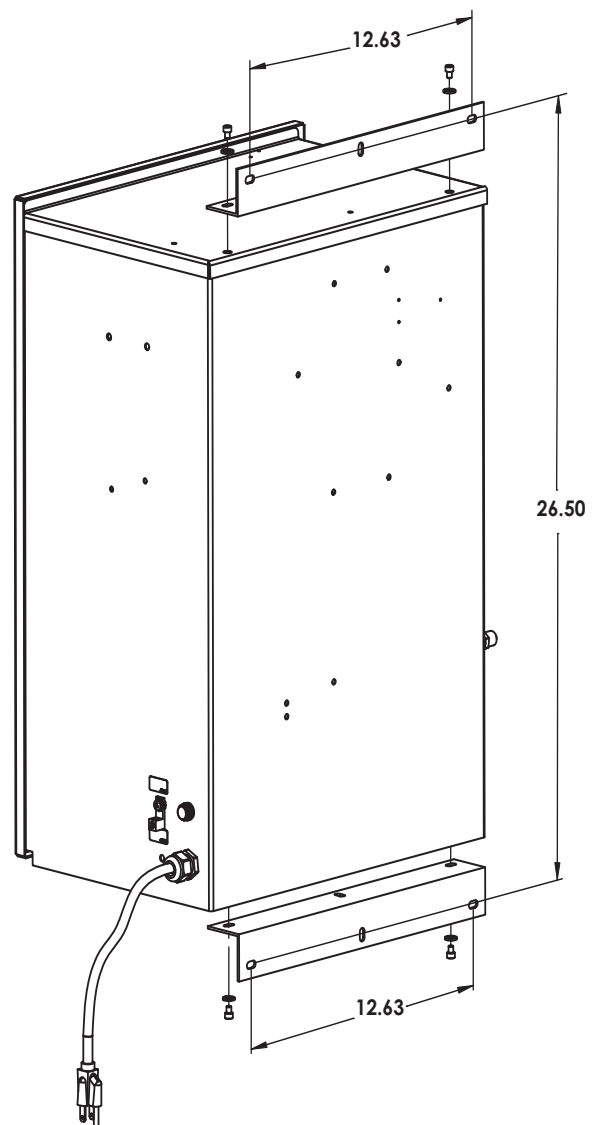

Figure 1: Wall Mount
The CD-2, CD-5 and CD-7G are designed for wall mounting. **See figure 1.** Mount generator in a clean, protected area, either indoors or outdoors. (See LOCATION REQUIREMENTS section 1B) They can also be mounted to the floor or deck with optional feet. (See REPLACEMENT PARTS section 5B) Locate generator out of reach of sprinklers or drainage spouts. Allow sufficient access for maintenance and all tubing and electrical wires. Ozone generator should be installed no less than one foot above the maximum water level.
2. Refer to Figure 1. Mark the locations for the four mounting bolts and install anchors appropriate for the mounting surface.